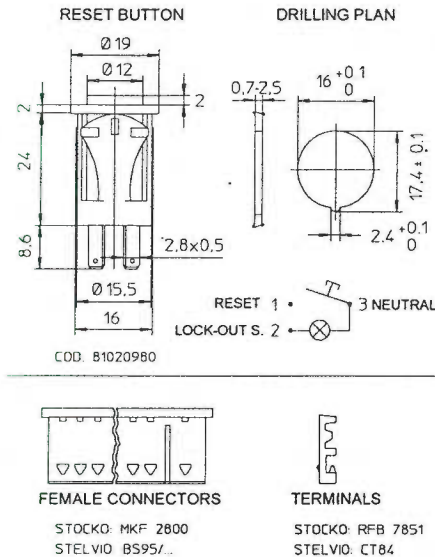
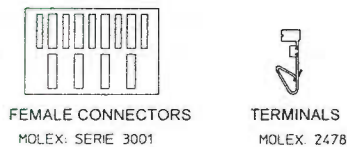

Fig.2
Fig.3
(3): Standard connectors are stelvio-stocko models, see Fig.2.
The control units are usually supplied with a kit of female connectors and/or a reset button (see Fig.2 and Fig.3).